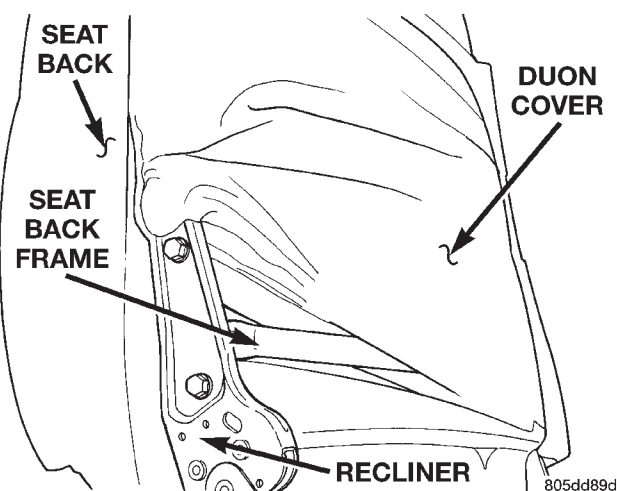

Fig. 6 Power Recliner Upper Bracket Remove/Install
(6) Remove the inboard seat back pivot bolt.
(7) Unplug the wire harness connectors, depending upon how the vehicle is equipped, as required to remove the seat back from the seat cushion.
(8) Remove the seat back cover far enough to access the two bolts that secure the power recliner adjuster upper bracket to the seat back frame (Fig. 6). Refer to Group 23 - Body for the seat back cover removal procedures.